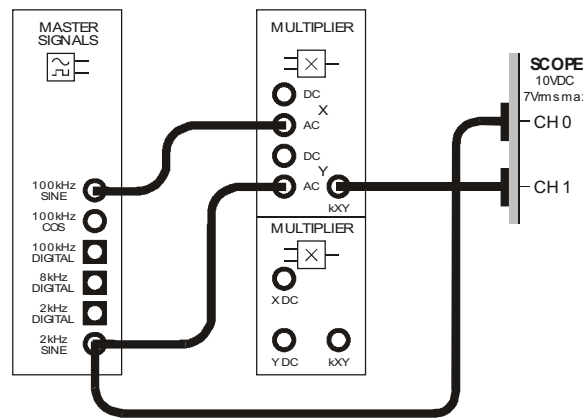

Figure 2
10. Connect the set-up shown in Figure 2 below.